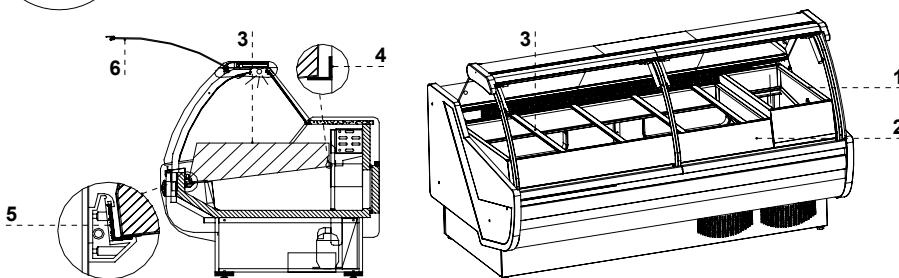

Fig.5 Mounting salad tank in „Santiago Gastro” device
1. Mount display shelves, hanging them on aluminium angle sections Fig.5/4;5 (p.18)
NOTE: In case of "Gastro" display cabinets, it is necessary to take out the universal salad tank from the display cabinet before mounting the glass side Fig.5/1 (p.18), in order to obtain free access to the ABS side and to easily screw the glass side with holding downs of the glass Fig.6/1 (p.19).